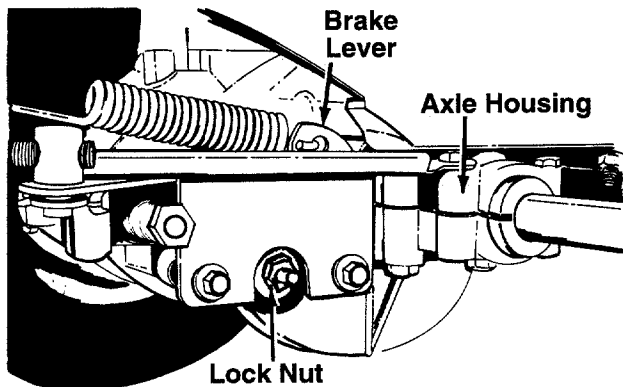

FIGURE 6.
## BRAKE ADJUSTMENT (See Figure 6)
**NOTE:** Your brake may be equipped with a castle nut and cotter pin instead of the lock nut shown in figure 6.
**NOTE:** Figure 6 is shown with the unit tipped up on rear wheels for clarity only.